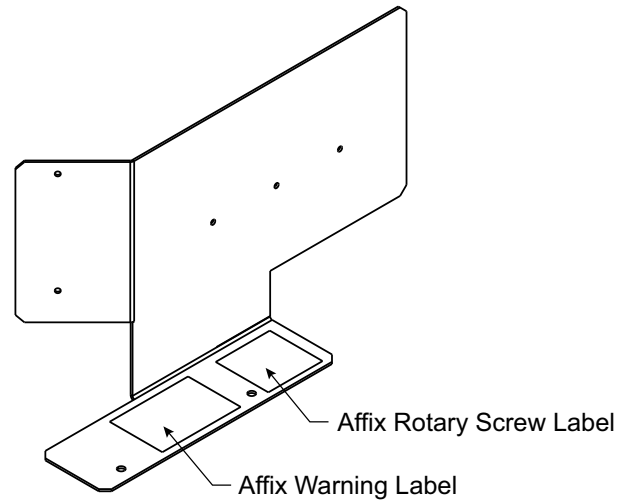

**Fig. 26 — Installing TruVu Controller on 7-in. Rail
2. For Chassis 1, 2, 3 and 4 units, install the TruVu Controller by sliding it into the 7-in. rail. (See Fig. 26.)